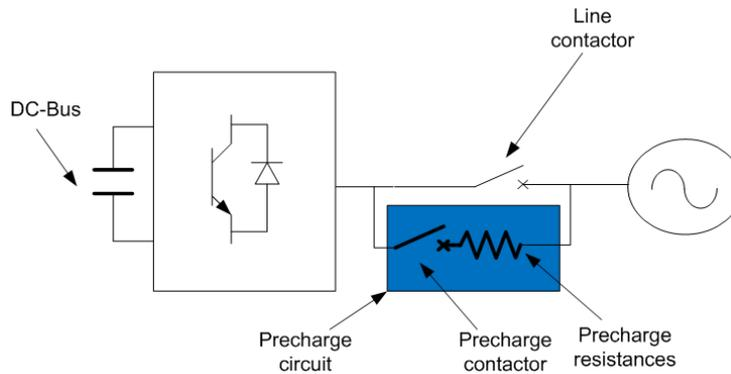

Fig. 3-21: Precharge circuit Example
This procedure is usually made by using an additional contactor and a set of resistance. The line voltage (AC) is converted into DC one by using the internal three-phase diode bridge (Fig. 3-21). If the precharge circuit is “drive controlled” it is called *internal precharge* otherwise *external precharge*. The detailed description about the precharge system will be explained later.